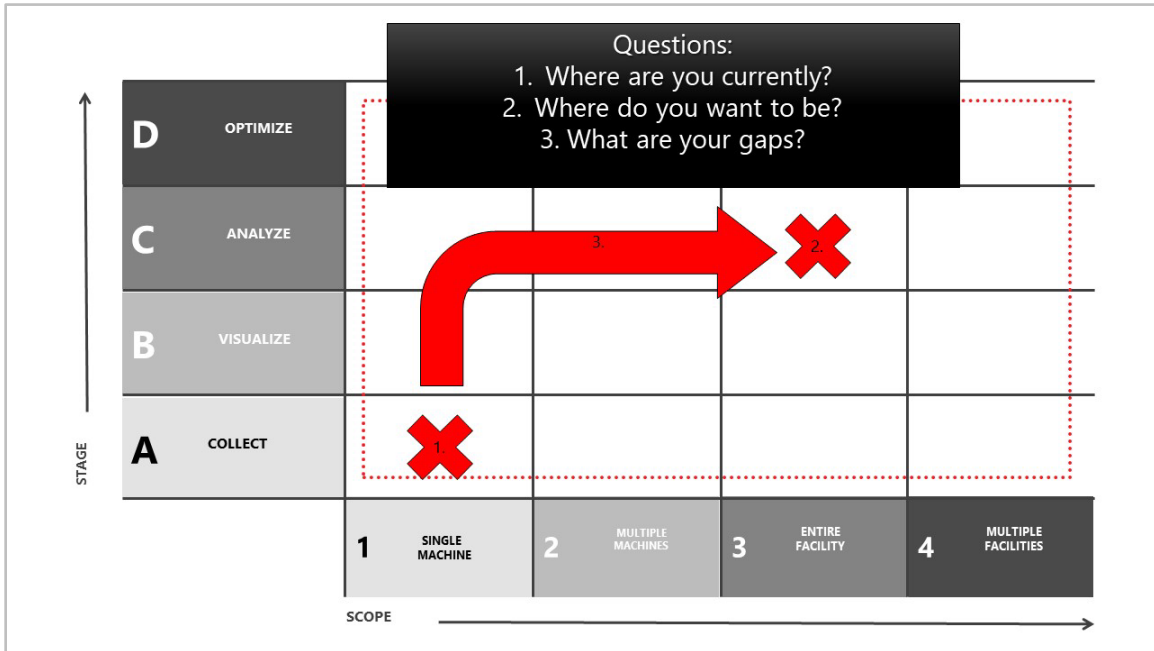

Figure 6. Question 3: What are your goals and targets for your digital transformation?
3. **What are your goals and targets for your digital transformation?** Here, the customer tells us their goals, so we can determine how best to assist them (Figure 6).